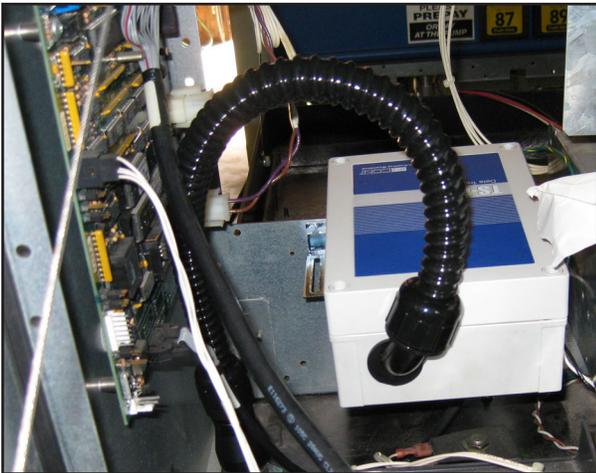

Figure 16: DTU Installed with Cover On
36. Install the DTU assembly on the horizontal cross bracket as shown in Figure 16. Use the two screws, washers, and nuts as supplied in the TS-DTU/P hardware kit. Take care that the flexible conduit does not interfere with the electronics on the side of the dispenser.